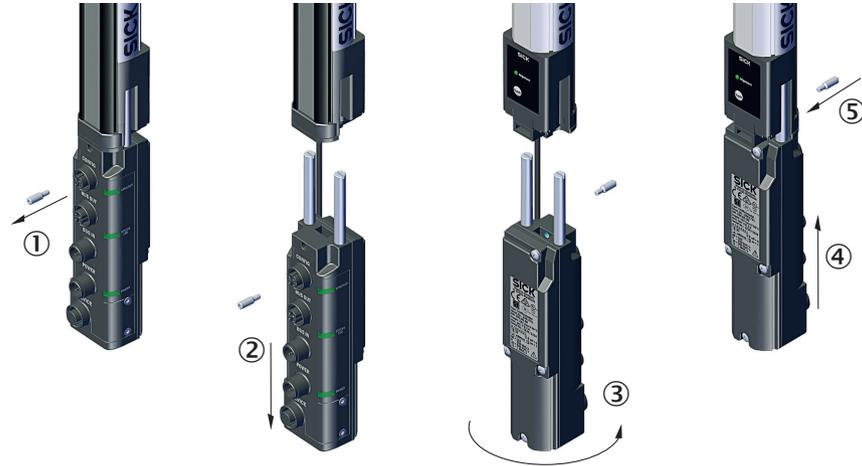

Figure 41: Turn the fieldbus module by 180°
- ▶ Remove the fieldbus module as described (see figure 41, page 48).